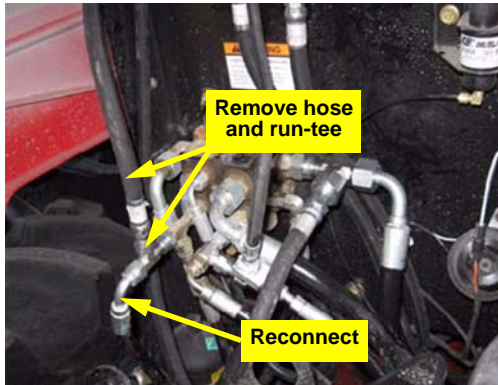
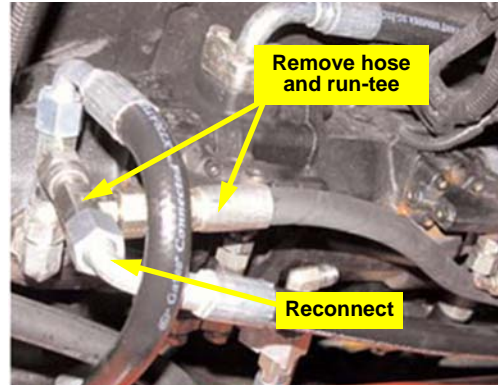

Figure 1a: Steering hose and run-tee at hydraulic flow divider
Figure 1b: Steering hose and run-tee at hydraulic reservoir
1. Remove the tank hose connected between the **T** port on the hydraulic steering block and either the hydraulic flow divider (Figure 1a) or the hydraulic reservoir (Figure 1b).
2. At the hydraulic reservoir or hydraulic flow divider, remove the run-tee and reconnect the machine's tank line to the factory-installed run-tee or the hydraulic flow divider (Figures 1a and 1b).